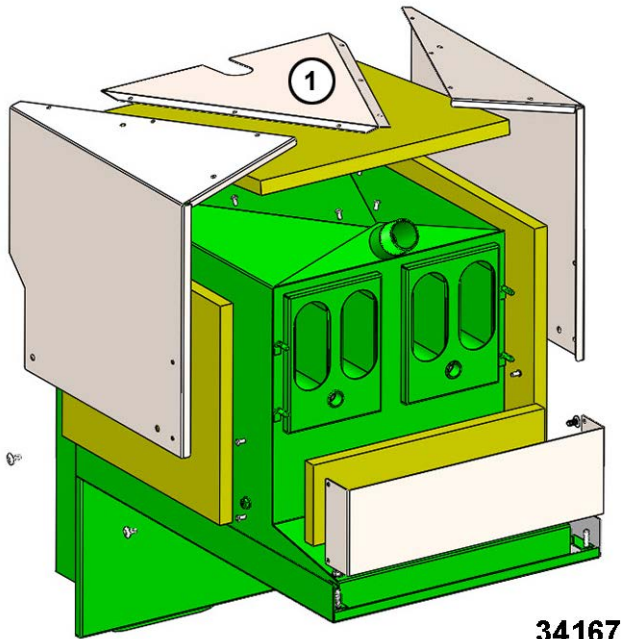

Fig. 56
- A. Install insulation kit (1, in Fig. 56 and Fig. 57) by setting into place and riveting (3/16" blind rivets) sections to itself. Attach kit assembly to tank with four 1/4-20 x 3/8 truss head screws, two on each side.